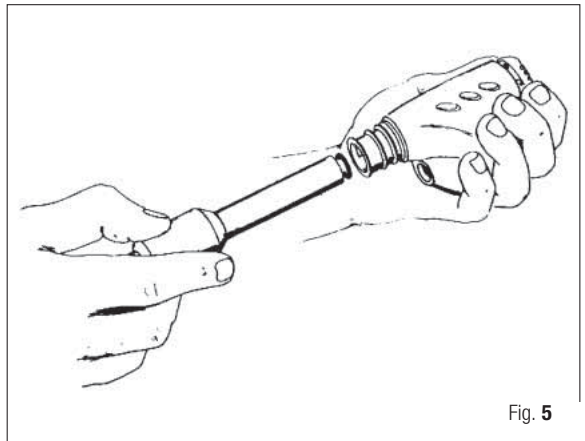

Fig. 5
- VII. Fix Spring Bearing + Gasket into the RE Valve Body. Slide the corrugated hose (60) onto the RE housing (32) and secure with clamps.
9. If the male QD cap (27) or LP hose clip (62) were removed from the corrugated hose (60) or if the corrugated hose was replaced, install the male QD cap and LP hose clip on the corrugated hose.
10. Thread the actuating cable through the corrugated hose (60).
11. Slide the corrugated hose (60) onto the RE housing (F) and secure with clamp (59).
12. Thread the actuating cable (66) through the anchoring bushing (47) and tie a knot in the actuating cable in a location that will allow the base of the anchoring bushing to just protrude from the corrugated hose.
13. Place o-ring (51) into the o-ring groove of the deflate button (52).
14. Insert the deflate button (52) with o-ring (51) into the inflator body (46).
15. Place O-ring (50) on bushing (49).
16. With special tool (P/N 106190 Fig. 5) or needle nose pliers, insert bushing (49) with O-ring (50), facing the deflate button, into the inflator body until the deflate button retaining tabs engage the bushing (Fig. 8-9).
17. Place the spring (48) on the anchoring bushing (47) and insert the anchoring bushing with spring into the inflator body until the locking tabs engage the inflator body. Depress the deflate button and release. The deflate button should return to its original position. If it does not return to its original position repeat steps 12-16 making sure all parts are in the correct location.